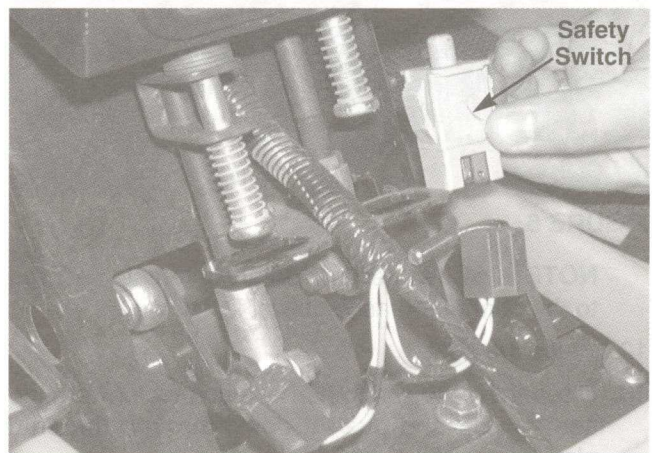

FIGURE 4.
9. Remove both safety switches from their respective holders by squeezing the retaining clips in and pushing upward until they are clear of the securing brackets. See figure 4.